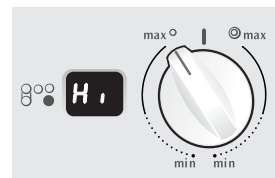
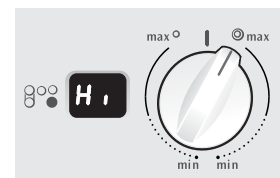

Figure 5
Figure 6
The cooktop is equipped with a dual radiant surface element located at the right front (Fig. 8) position. The size of graduations on control panel indicate which coil of the dual radiant element will heat. The **small** graduations indicates that only the inner coil will heat (Fig. 5 & 7). The **large** graduations indicates that both inner and outer coils will heat (Fig. 6 & 8). You may switch from either coil setting at any time during cooking.
2. Push in and turn the control knob counterclockwise (Fig. 5) for smaller cookware and clockwise (Fig. 6) for larger cookware.